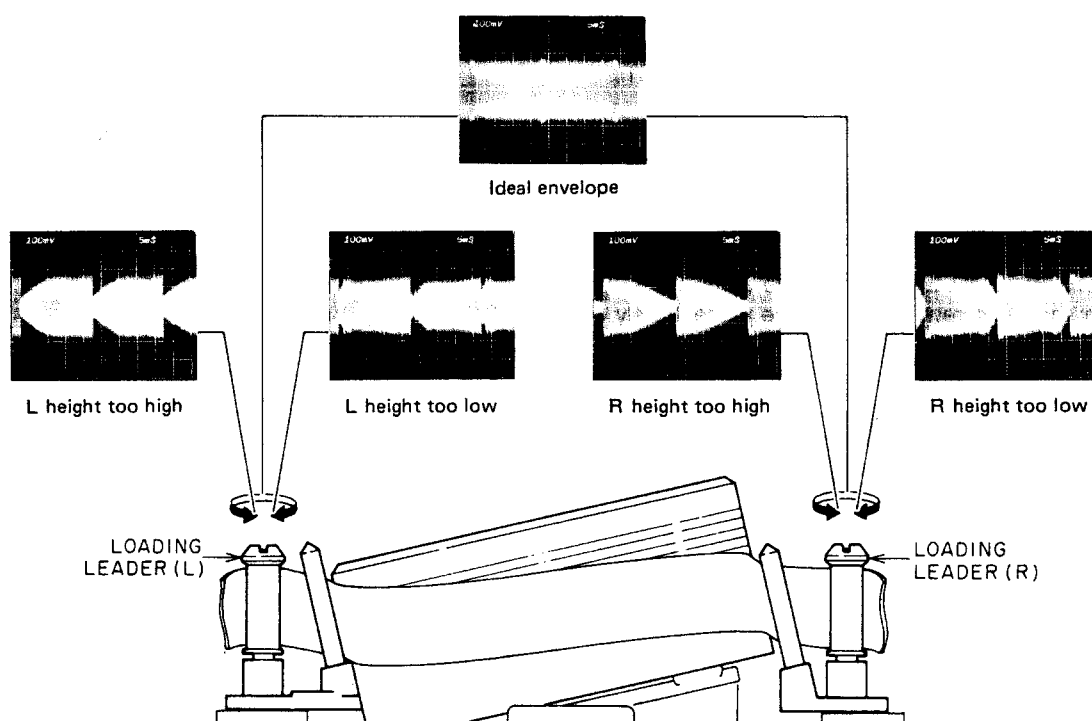

Fig. 4-12
- 4) Turn the LOADING LEADER heads with a flat head (—) screwdriver to obtain a flat RF envelope as the ideal envelope, as shown in Fig. 4-12.